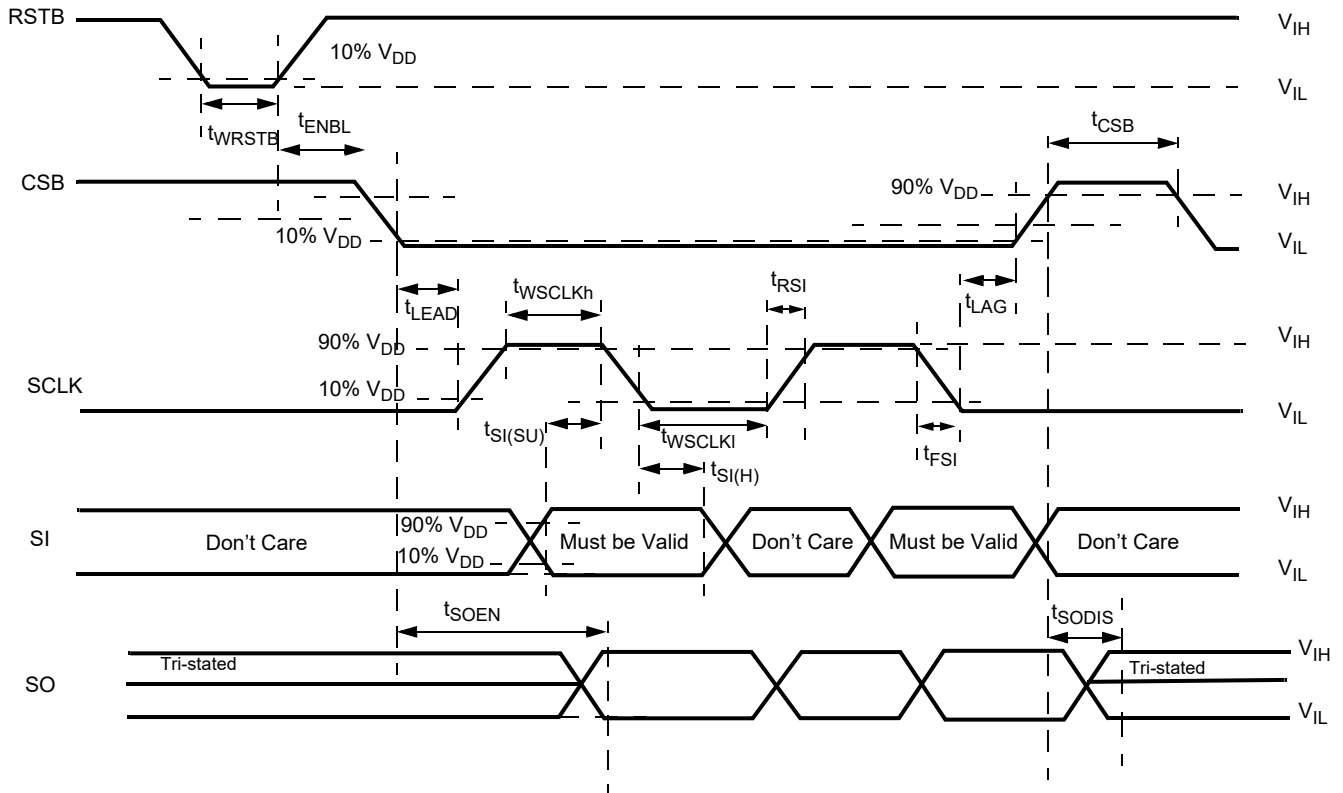
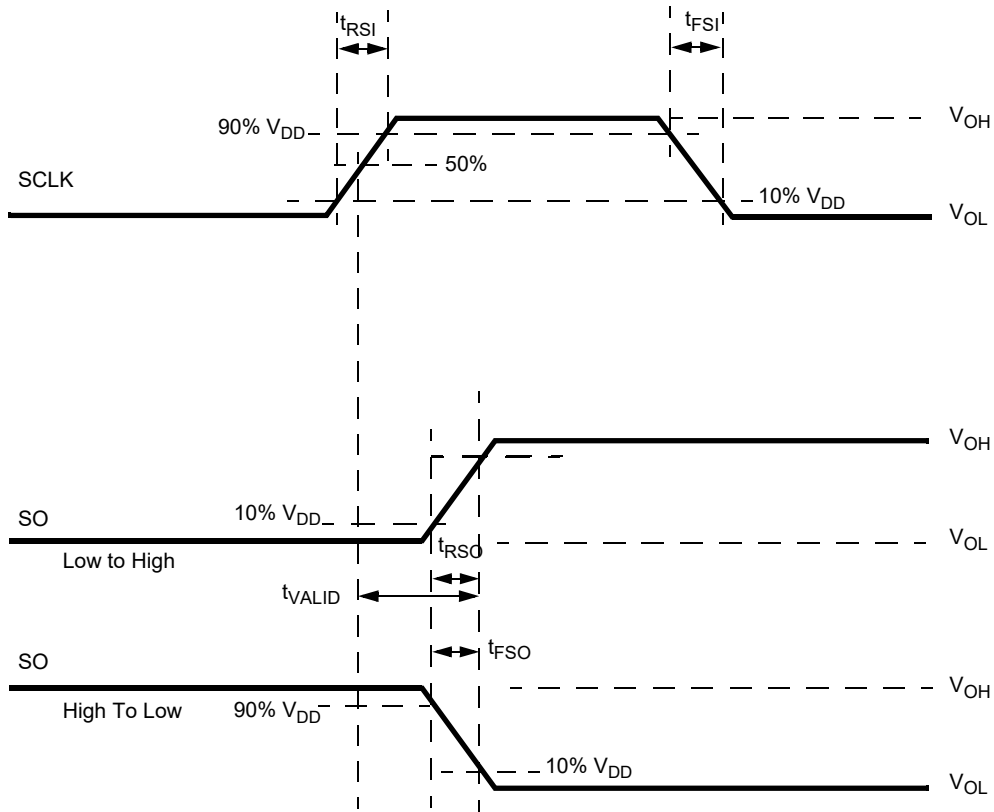

Figure 7. Timing requirements during SPI communication
Figure 8. Timing diagram for serial output (SO) data communication
Data communication over the SPI port is enabled when the CSB pin is in the logic [0] state. Data from the Input Shift registers are locked in the addressed SI registers on the rising edge of CSB. The device transfers the contents of one of the 8 internal registers to the SO register on the falling edge of CSB. The SO output driver is enabled when CSB is logic [0]. CSB should transition from a logic [1] to a logic [0] state only when SCLK is at logic [0] (Figure 7 and Figure 8). CSB is internally pulled up to  $V_{DD}$  through  $I_{UP}$ .
Serial input (SI) data bits are shifted in at this pin. SI data is read on the falling edge of SCLK. 16-bit data packages are required on the SI pin (see Figure 7), starting with bit D15 (MSB) and ending with D0 (LSB). All the internal device registers are addressed and controlled by a 4-bit address (D9-D12) described in Table 11. Register addresses and function attribution are described in Table 12. The SI pin is internally connected to a pull-down current source,  $I_{DWN}$ .